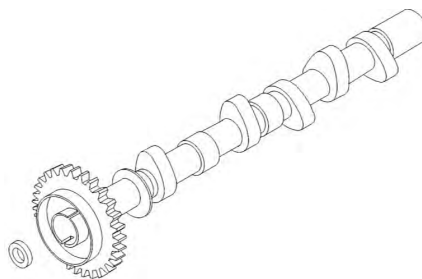

Figure 61
- (1) Install a new tachometer shaft centering spacer (Figure 61) on the camshaft assembly.